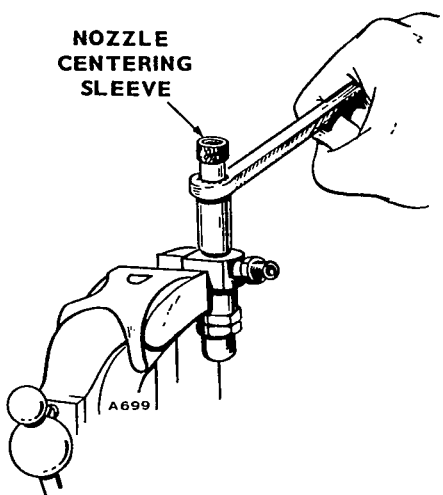

FIGURE 19. TIGHTENING NOZZLE CAP NUT
5. Place the centering sleeve over the nozzle (Figure 19) for initial tightening. Then remove the centering sleeve to prevent it from binding between nozzle and cap nut and torque nozzle cap nut to 50-55 foot-pounds.